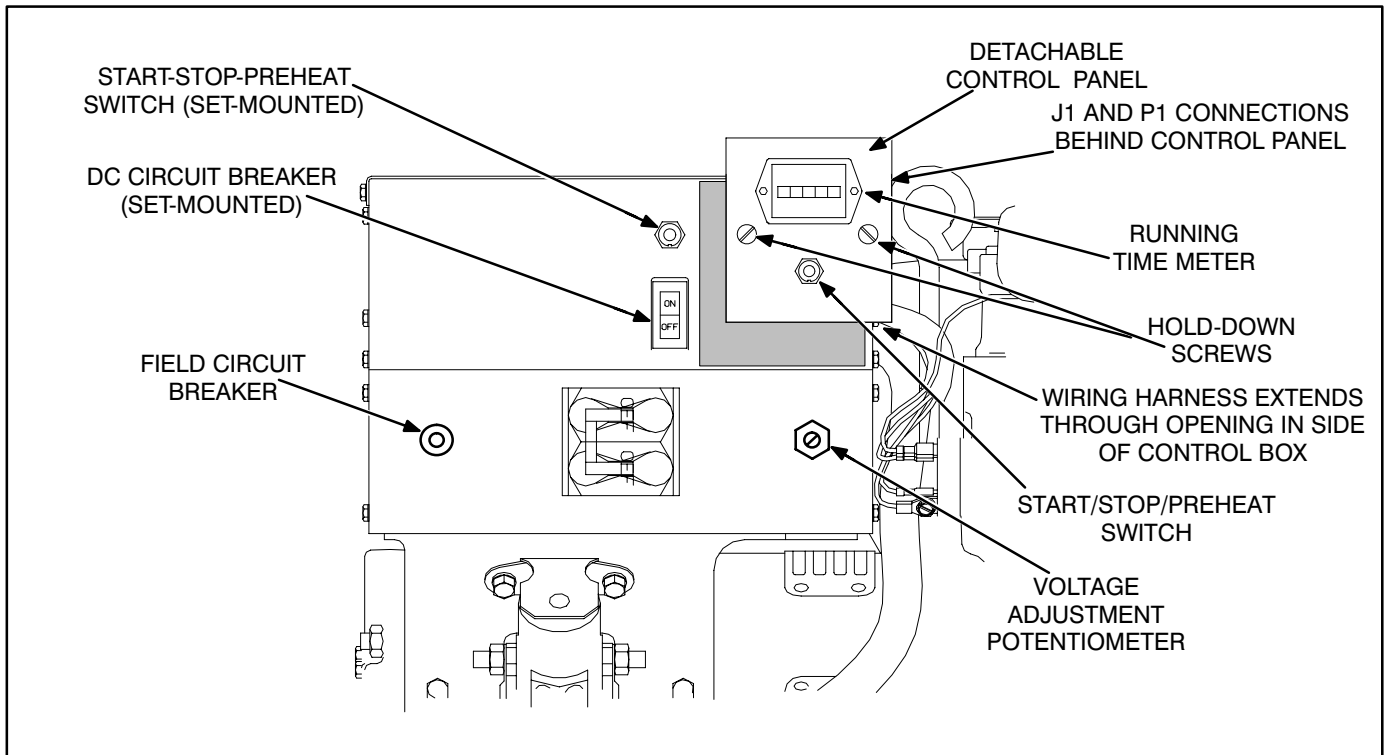

FIGURE 8-6. REMOTE CONTROL PANEL
5. Route the harness through the opening at the side of the control box (see Figure 8-6).